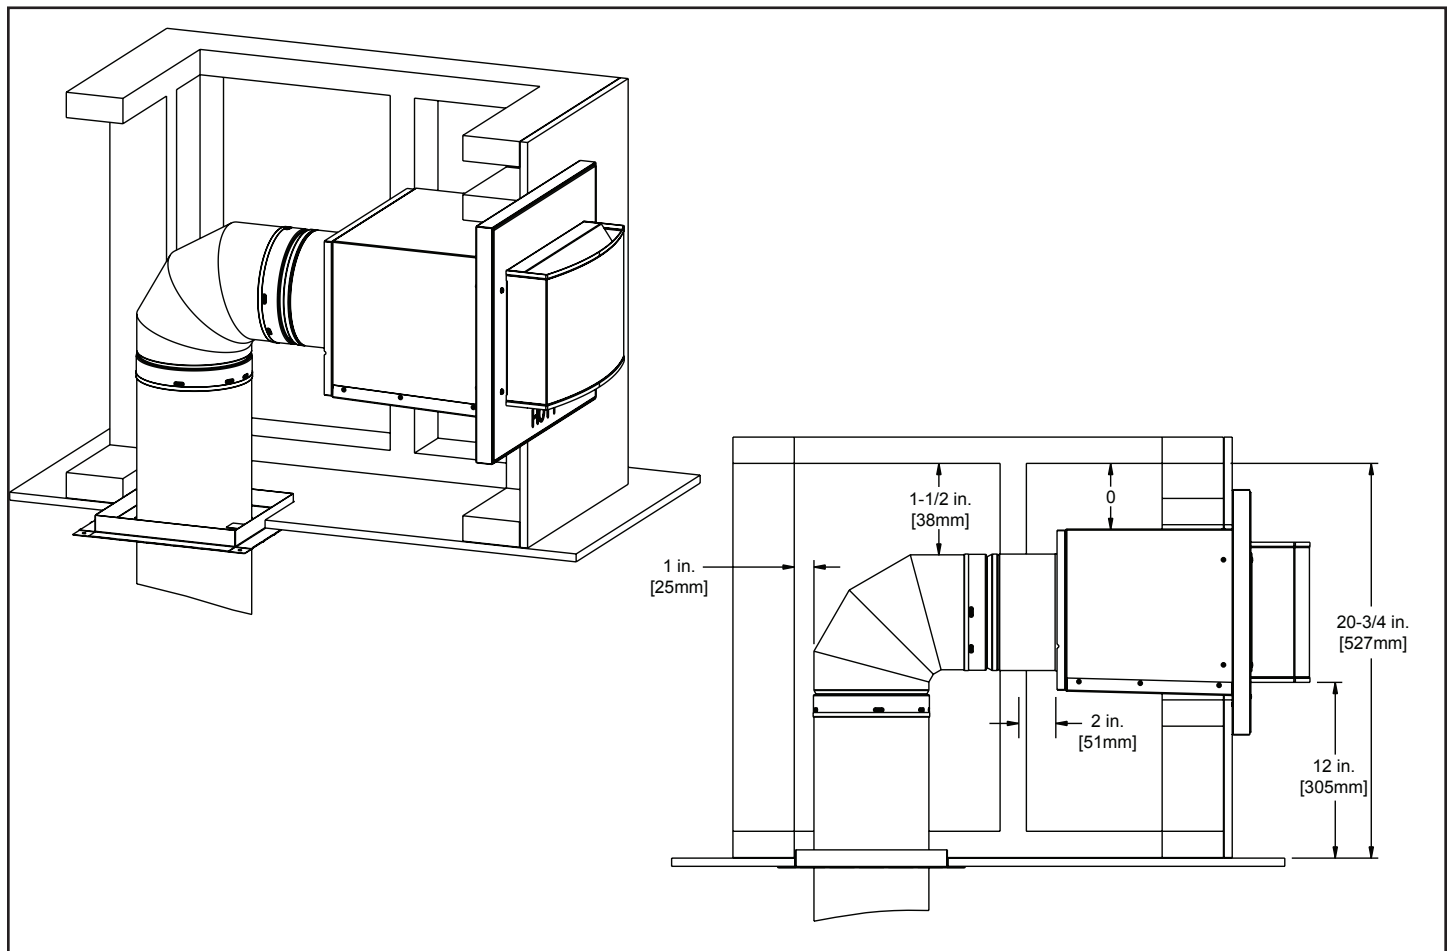

Figure 3.4
1. If the PVLPLP is going to terminate on a flat roof, an enclosure similar to the one shown in Figure 3.4 will need to be constructed.